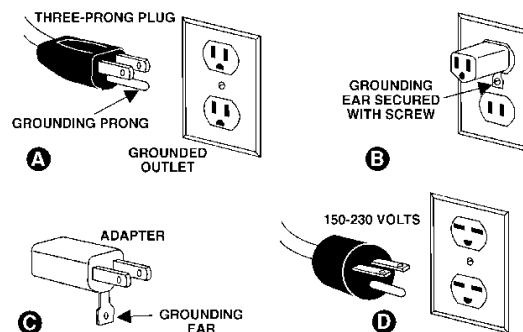

Figure 14
The PM2800B drill press is rated at 115/230V power, and is pre-wired for 115 volt. The drill press comes with a plug designed for use on a circuit with a grounded outlet that looks like the one pictured in **A**, Figure 14.
This tool is intended for use on a circuit that has an outlet that looks like the one illustrated in **A**, Figure 14. An adapter, shown in **B** and **C**, may be used to connect this plug to a 2-pole receptacle as shown in **B** if a properly grounded outlet is not available. The temporary adapter should be used only until a properly grounded outlet can be installed by a qualified electrician. *This adapter is not permitted in Canada.* The green-colored rigid ear, lug, and the like, extending from the adapter must be connected to a permanent ground such as a properly grounded outlet box.
This tool is intended for use on a circuit that has an outlet that looks like the one illustrated in **D**, Figure 14. The tool has a grounding plug that looks like the plug illustrated in **D**. Make sure the tool is connected to an outlet having the same configuration as the plug. No adapter is available or should be used with this tool. If the tool must be reconnected for use on a different type of electric circuit, the reconnection should be made by qualified service personnel; and after reconnection, the tool should comply with all local codes and ordinances.
3. The 115V attachment plug supplied with the drill press must be replaced with a UL/CSA listed plug suitable for 230V operation, similar to the plug illustrated in D, Figure 14. Contact your local authorized Powermatic Service Center or qualified electrician for proper procedures to install the plug.